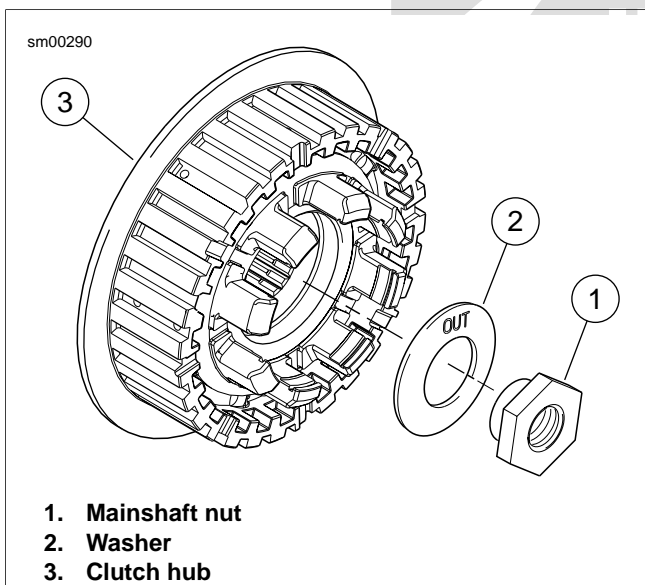
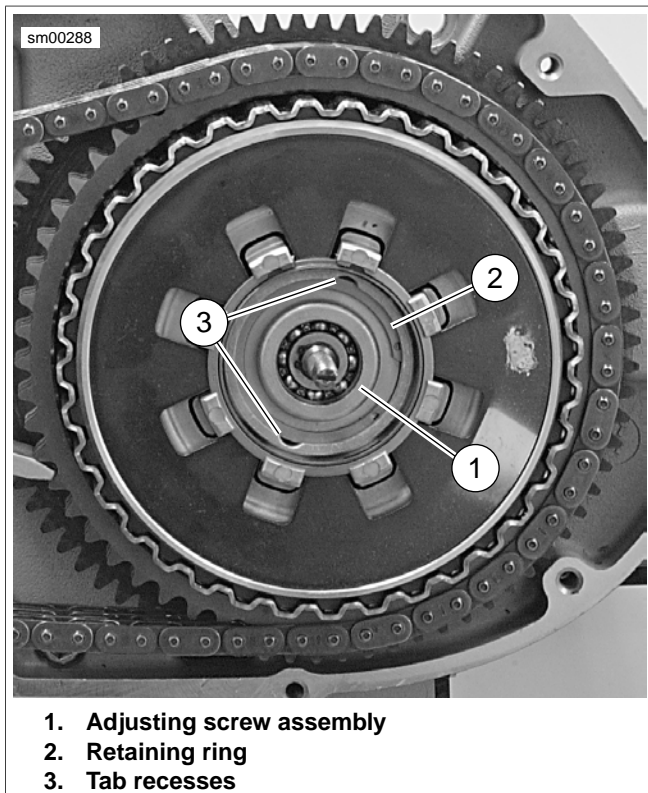

Figure 5-36. Mainshaft Nut and Washer
Figure 5-38. Clutch Adjusting Screw Assembly and Retaining Ring
See Figure 5-36. Washer must be installed with the word "out" facing the mainshaft nut or transmission may be damaged.
6. See Figure 5-36. Install mainshaft washer (2) and nut (1).
- b. Place washer (2) on mainshaft with the word "out" facing away from clutch hub.
7. Install nut (left-hand threads) (1). Tighten to 70-80 ft-lbs (94.9-108.5 Nm). Remove SPROCKET LOCKING LINK.
- a. See Figure 5-38. Align two tabs on perimeter of release plate with corresponding recesses (3) in pressure plate.